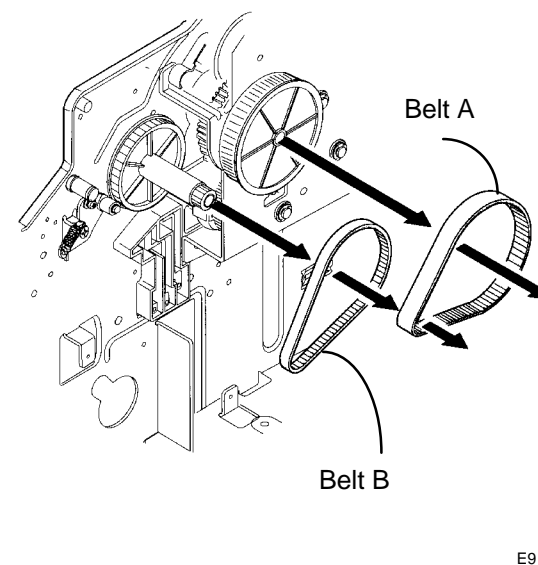

Figure 2. Removing the Main Drive Belts
5. (Figure 2): Remove the Main Drive Motor Belts.